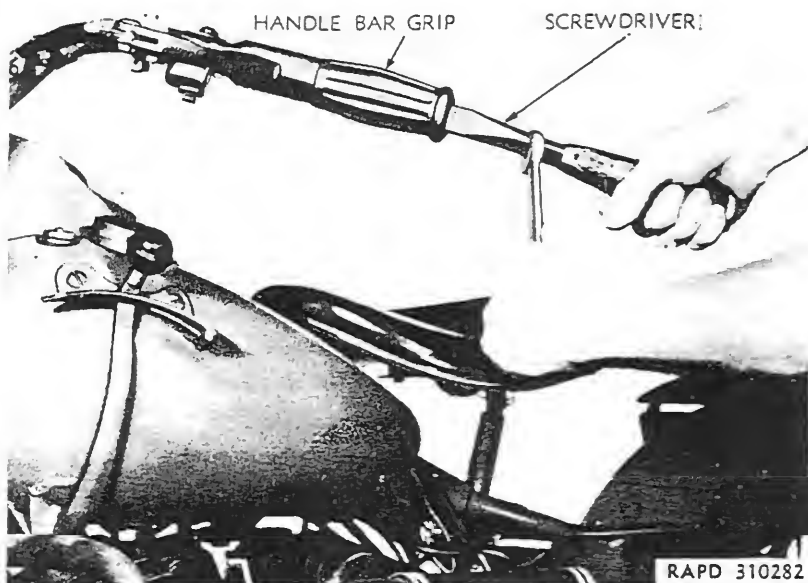

Figure 66—Removing Handle Bar Grip Sleeve Retaining Nut
101. HANDLE BAR CONTROLS (figs. 66 and 67).
(1) Disconnect control wire at throttle lever connection.
(2) Insert blade of a large, square-shank screwdriver through hole in end of grip and turn out end nut by using a wrench on the shank of the screwdriver (fig. 66). Sometimes this nut is difficult to remove. In this case, insert punch into the slot in the nut and